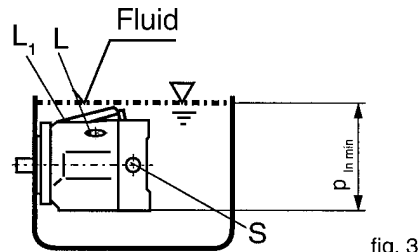

fig. 3
- a) If the minimum fluid level is equal to or above the top of the pump, ports "L", "L1" and "S" should remain open (see fig. 3)